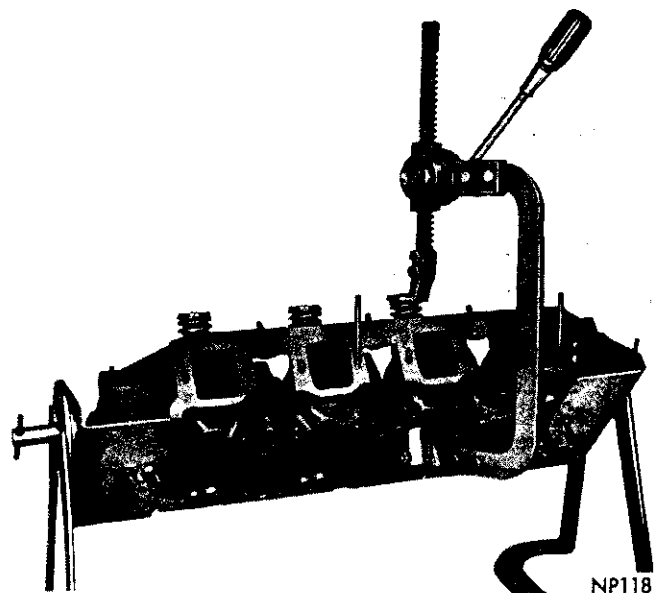

Fig. 9—Compressing Valve Spring
(1) With cylinder head removed, compress valve springs with Tool C-3422A (Fig. 9).
(2) Remove valve retaining locks, valve spring retainers, valve stem cup seals (intake valves only) and valve springs. **Remove any burrs from the valve stem lock grooves to prevent damage to the valve guide when valves are removed. Identify valves to insure installation in original location.**